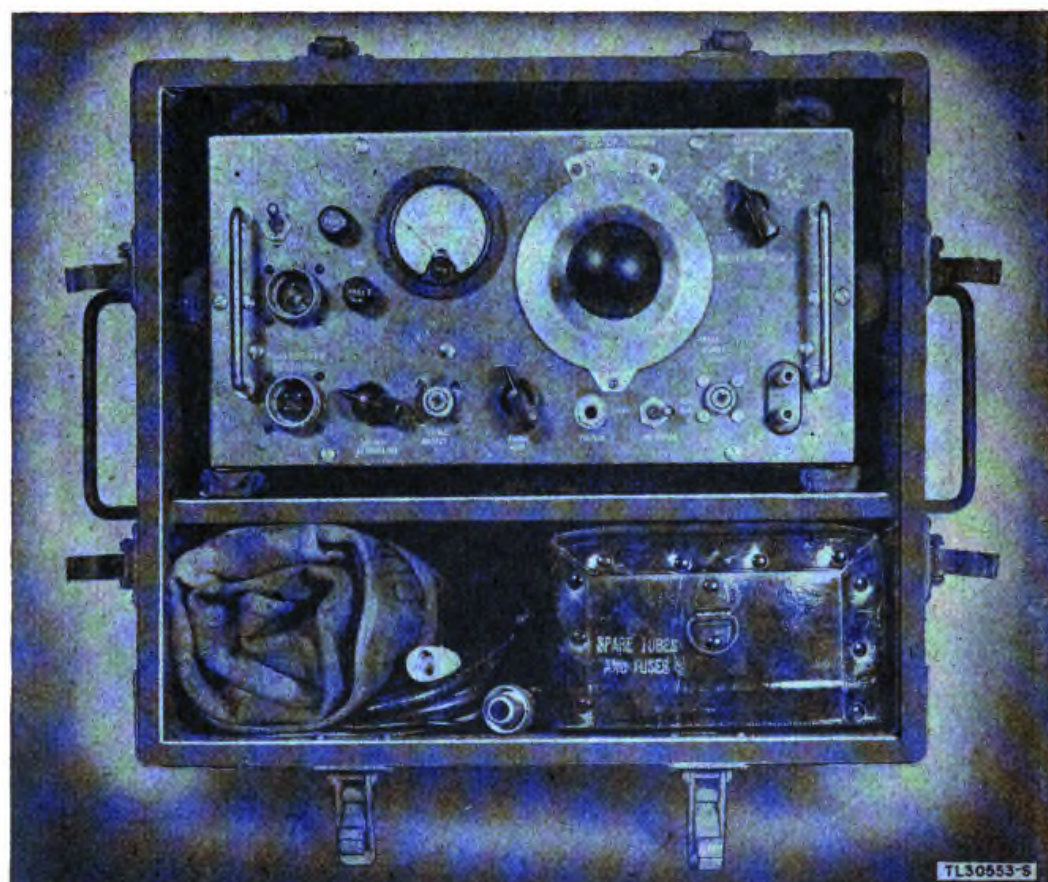

Figure 25. Test Set TS-159/TPX in Chest CY-154/TPX-1.
b. Chest CY-154/TPX-1 (fig. 25) is used to store Test Set TS-159/TPX.